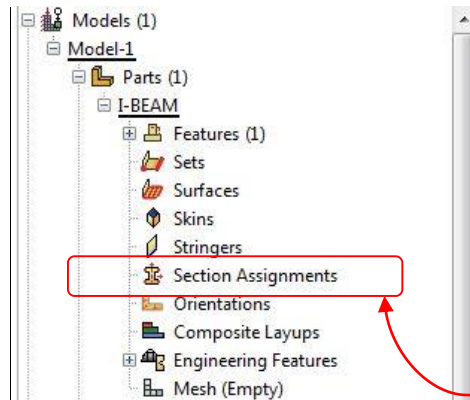

Figure 12. Model Tree Expansion (Parts)
- Now that the beam section has been created, it can be assigned to the geometry. In the model tree, click the + to the left of the **Parts** icon, this will further expand the model tree's options. Next, click the + to the left of the part called **I-BEAM**, further expanding the model tree (Figure 12).